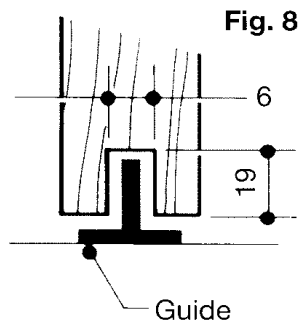

Fig. 8
6. On the door, locate positions of top plates (Fig. 7) drill pendant bolt clearance holes 12 diameter, and plate fixing pilot holes. Fix plates firmly to the door with the specified fixings. Machine base guide groove if required (Fig. 8)
4. Check the combined door height, track assembly height and floor clearance against the door aperture height. Machine door to correct height if necessary. Locate positions of door top plates (Fig. 7). Drill pendant clearance bolt holes and screw fixing holes. Fix plates firmly to the door with the specified fixings. Machine base guide groove if required (Fig. 8).